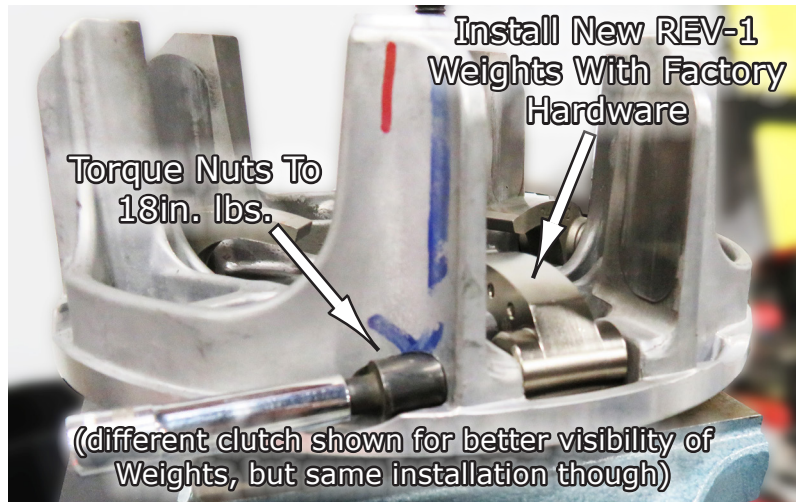

Fig.24
25. So at this point, load all (3) Flyweights with the correct count of magnets determined by your "P" number, and then install all three of your New REV-1 weights back into the clutch using your existing Factory Hardware. **Torque Nuts to 18in.lbs.** See **Fig.24.**